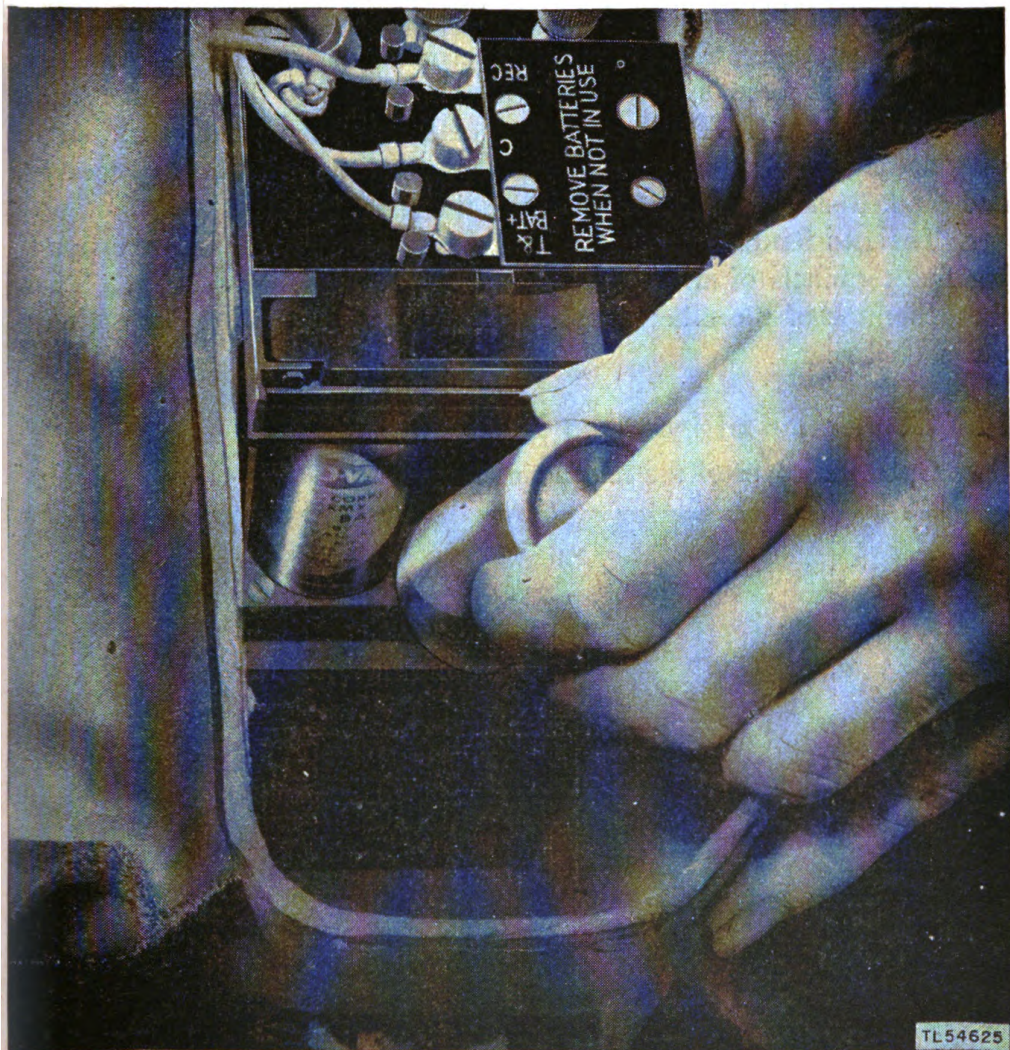

Figure 13. Installation of batteries.
- b. Place two Batteries BA-30 in the battery compartment. (See fig. 13.) Make certain that the bottoms of the batteries rest on the coiled springs and that the tops of the batteries rest against the contacts at the top of the compartment. These batteries are connected in series by the interior wiring of the telephone.